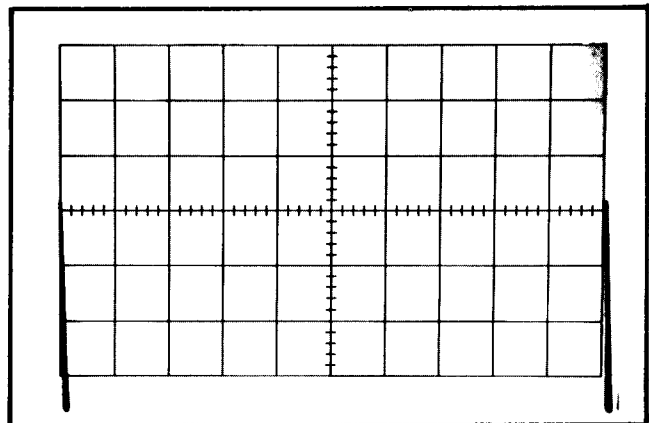

Fig. 5-20. Typical CRT display when checking delayed-sweep accuracy.
b. **CHECK**—Using the A TIME/DIV switch, B TIME/DIV switch and time-mark generator settings given in Table 5-4, check delayed sweep accuracy within the given tolerance. First set the DELAY-TIME MULTIPLIER dial to 1.00 and rotate the dial until the sweep starts at the top of the second marker (see Fig. 5-20). Note the dial reading and then set the dial to 9.00 and rotate slightly until the sweep starts at the top of the tenth marker. DELAY-TIME MULTIPLIER dial setting must be 8.00 divisions higher, + or — the allowable error given in Table 5-4.